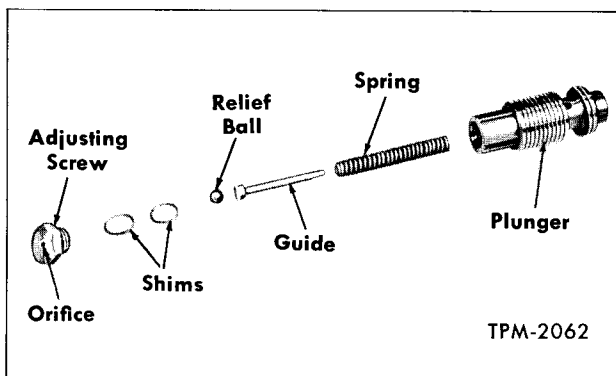

Figure 19—Flow Control Valve Components
17. If inspection indicates necessity for removal of bearing oil seal (23) and drive shaft inner bearing (18), drive seal out of pump body with punch and hammer, then using care to avoid damage to inner surface of pump body, remove inner bearing from pump body by tapping out lightly with hammer and brass drift.
18. Remove drive shaft key (19) from slot in rotor drive shaft (20).
19. If inspection indicates necessity for replacement of outer bearing (22), press bearing off drive shaft (20) using a 1" I.D. sleeve.
20. If flow control valve assembly (fig. 19) is to be disassembled for inspection or cleaning purposes, maintain pressure on spring loaded plug to prevent loss of poppet relief ball. Be careful not to score ground surfaces of flow control valve.
1. If flow control valve assembly (fig. 19) has been disassembled, assemble parts, making sure same number of shims are installed as were removed. These shims control pressure at which relief valve opens to 950-1000 psi pressure. Tighten relief valve adjusting screw to 80-100 inch-pounds torque.
2. If drive shaft outer bearing (22) was removed from drive shaft (20), press bearing on shaft, using a sleeve with 1" I.D. Install bearing on shaft with stamped face of inner race toward threaded end of shaft.
3. If drive shaft inner bearing (18) was removed from pump body (24), install bearing in pump body by tapping lightly on bearing outer race. Make sure bearing is fully seated in pump body.
4. If bearing oil seal (23), was removed from pump body (24), install new oil seal in bore of pump body. Use a sleeve with 1-5/8" diameter to bear against outer edge of seal when driving into position. Install seal with stamped side facing out. Make sure seal is properly seated in pump body.
5. Install drive shaft (20) and outer bearing (22) in bore of pump body (24). Tap lightly on outer race of bearing until bearing is fully seated; then install snap ring (21) in pump body.
6. If locating pins (25) were removed at pump disassembly, install new pins in pump body (24).
7. Install new sealing ring (36) in groove of pump body (24).
8. Install pump rotor (27) over splines of drive shaft (20); then position vanes in slots in rotor with beveled edges of vanes facing seal ring (36).
9. Carefully position pump body to cover ring (26) over pump rotor (27) and vanes (17) aligning